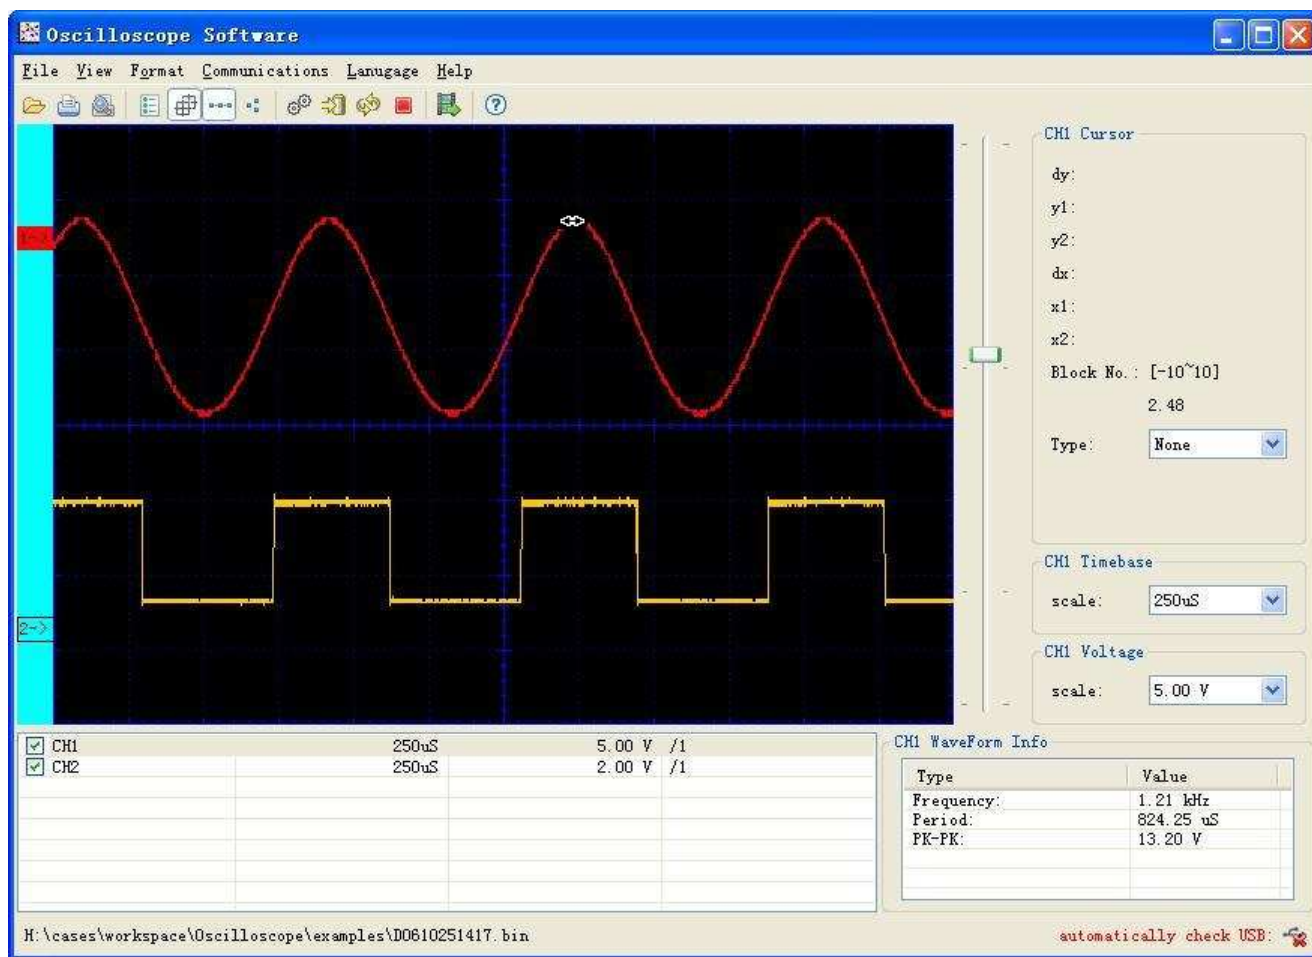

Fig 5-1-1
1. Operation for waveforms display range: (Fig 5-1-1-5)
(2). Waveform move left and right: Move the mouse to the waveform, it becomes icon, then drag the mouse to make the waveform left and right as Fig 5-1-1